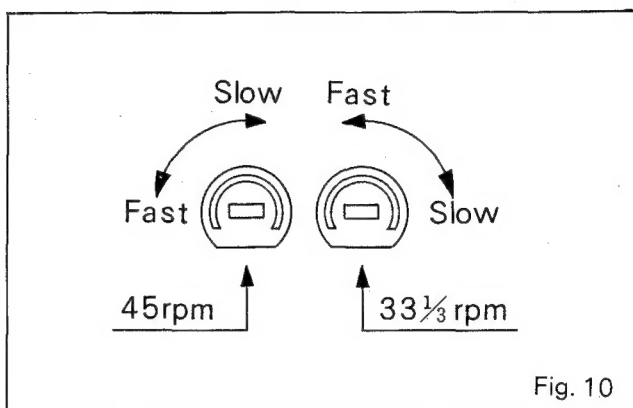

Fig. 10
- (1) Place the pitch control knob at the center.
- (2) Remove the platter and put the speed adjusting label off from the cabinet.
- (3) Rotate from the two holes beneath the speed adjusting label the semi-fixed variable resistors. Check to see if the strobo indexes appear stationary after placing turntable platter (Fig. 10).